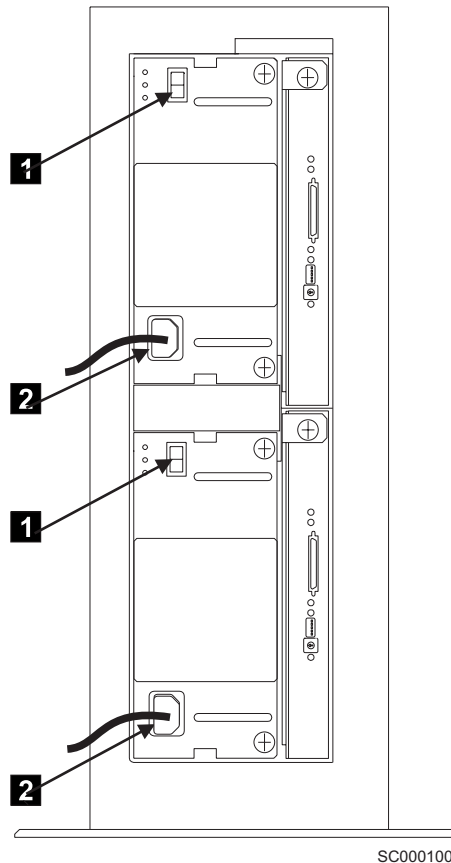

Figure 45. Removing power from a 2104 Model TS4
2. At the back of the 2104 Model TS4, set the dc on/standby switch **1** of each fan-and-power-supply assembly to Standby, as Figure 45 shows.